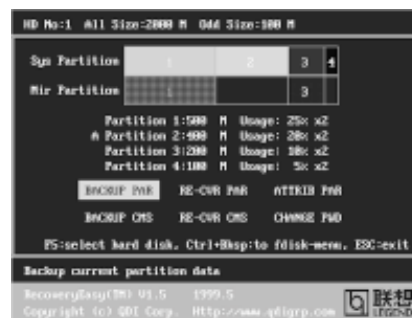

figure-3 Recovery User Interface
2. Recovery Interface (see figure-3)